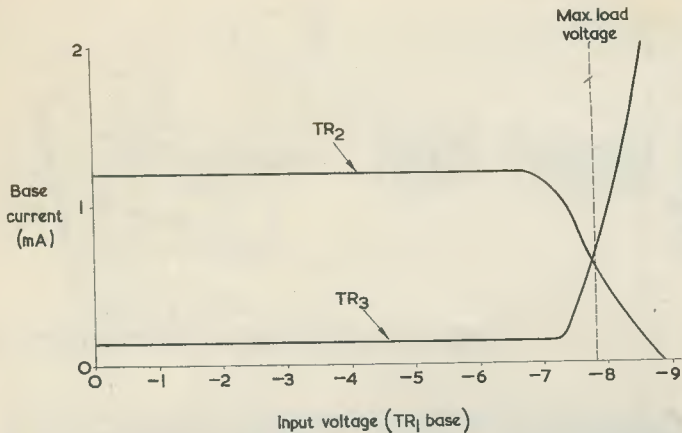

Fig. 3. Base current in TR₂ and TR₃ for differing voltages at the base of TR₁. With the prototype circuit, maximum bulb illumination was given at 7.8 volts
Two further curves, also obtained from the prototype, are given in Fig. 3, and these show base current in TR₂ and TR₃ for input voltages from zero to 9 volts. Again, the same pattern is demonstrated. Up to 7 volts, TR₃ passes a low base-emitter current. After 7 volts, base current in TR₃ increases. At the same time, TR₂ passes a high base-emitter current up to about 7 volts, after which this decreases. At 7.8 volts, the figure for maximum bulb illumination with the prototype, base
* Although this is not evident from Fig. 3, the directions of the two currents whose curves are shown are opposite. The curve for TR₂ was obtained with the meter negative terminal connected to the base, and that for TR₃ with the meter positive terminal connected to the base. The two curves are drawn on the same side of the graph in Fig. 3 to show their mutual effect more clearly.